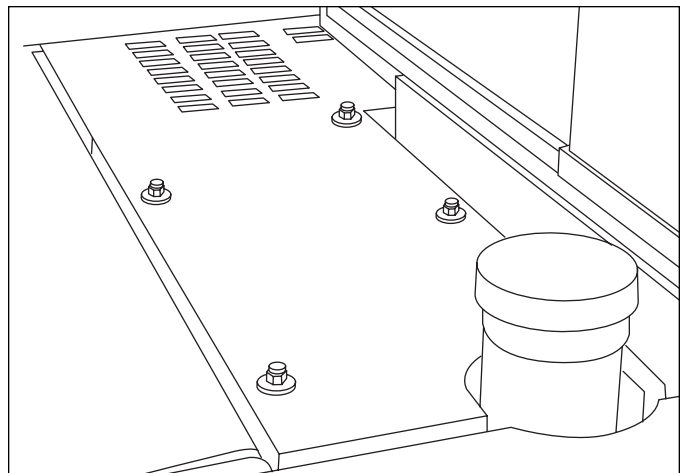

Figure 4-13. Hydraulic Oil Cap Access Panel
5. Remove access panel located on top of valve cover (Figure 4-13) to expose the hydraulic oil cap.
3. Remove access panel located on top of valve cover (Figure 4-13) to expose the hydraulic oil cap.